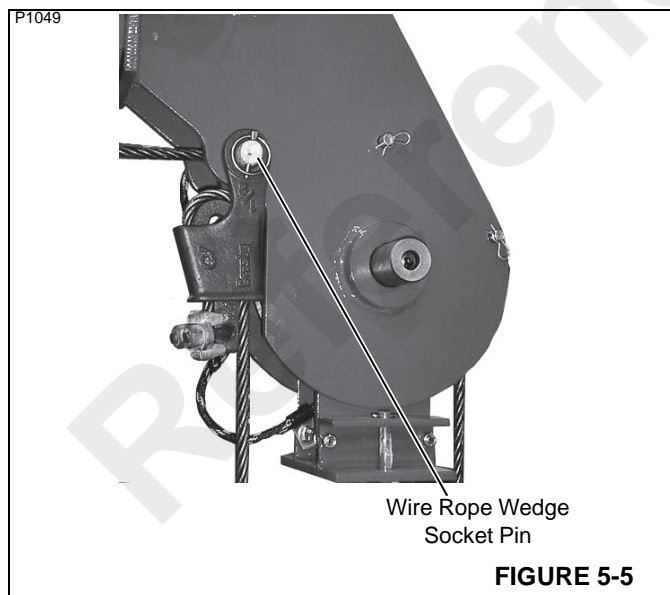

FIGURE 5-5
2. Remove the pin (Figure 5-5) securing the rope wedge socket to the boom head. Remove the wire rope dead end socket.